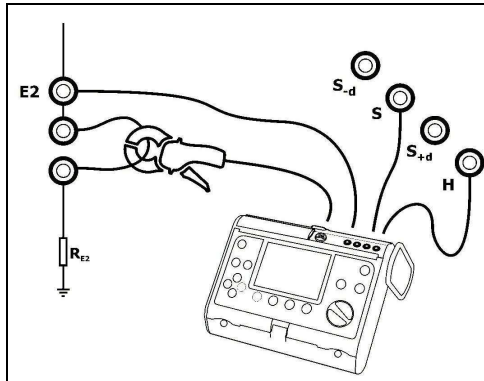

Figure 10. Connection of the meter.
- connect the earth resistance meter (MRU-XXX) to the sockets in accordance with Figure 10,